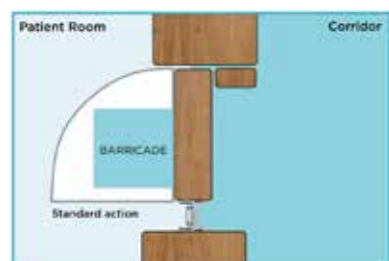

Figure 12.5 - Door barricaded by patient
- Dual Swinging Door with Detachable Stop** – This is where a single leaf door is installed with a double swinging hinge. During normal use the hinge allows the door to swing inwards however the detachable stop mounted on the frame prevents the door from swinging outward. If a barricade is attempted the stop can be detached which then allows the door to swing outward, enabling staff access to the room. Refer Figures 12.5, 12.6 and 12.7.